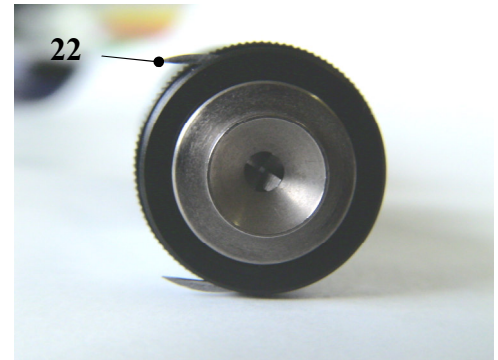

Fig. 18
- Insert the two keys **(22)** and install the previously-greased O-ring **(20)** Fig. 18.